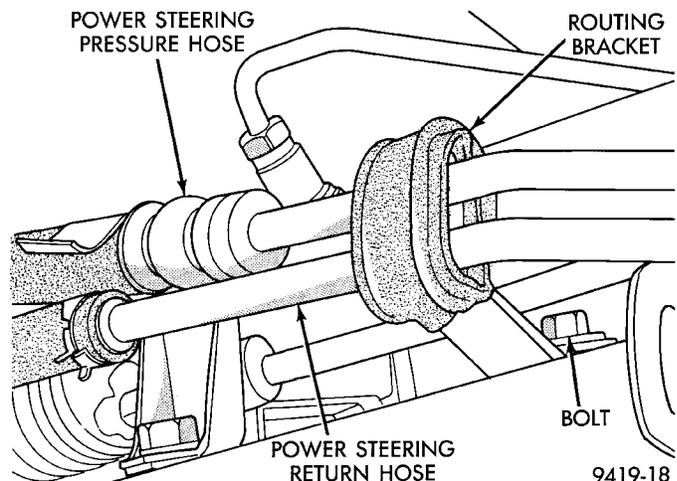
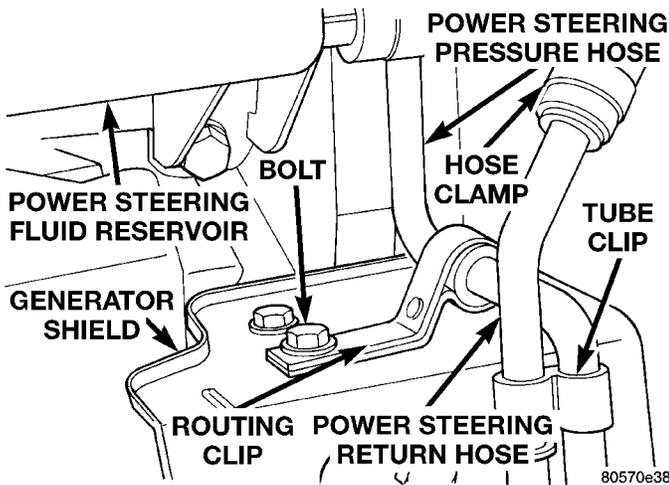
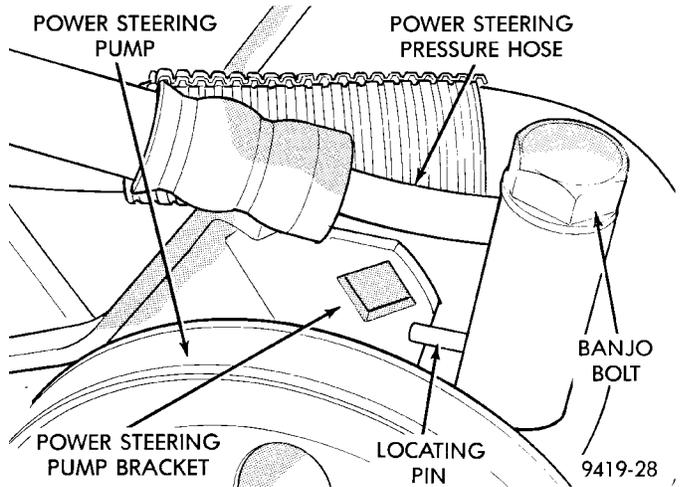

Fig. 8 Power Steering Hose Routing Bracket
Fig. 10 Power Steering Pressure Hose Routing Clip At Generator Shield
Fig. 12 Power Steering Hose Attachment To Power Steering Pump
- (1) Raise vehicle.
- (2) Remove bolt attaching power steering hose routing bracket to front suspension crossmember (Fig. 8).
(4) Remove power steering pressure hose from routing clip on generator shield (Fig. 10).
- (7) Loosen and remove Banjo bolt, and power steering pressure hose from pressure fitting on power steering pump (Fig. 12).
- (8) Power steering fluid pressure hose is removed from the vehicle from the top of the engine compartment.
- (9) Discard all used O-rings located at ends of power steering pressure hose and Banjo bolt.
- (7) Attach power steering pressure hose to outlet fitting on power steering pump (Fig. 12). **Do not tighten or torque pressure fitting Banjo bolt at this time.**
(11) Install the power steering pressure and return hose routing clip on hoses (Fig. 8). Install bolt attaching routing clip to front suspension crossmember. Torque routing clip to front suspension crossmember attaching bolt to 23 N·m (17 ft. lbs.)
(12) Torque power steering pressure hose to steering gear tube nut to 34 N·m (25 ft. lbs.).
(13) Install power steering pressure hose in routing clip on generator shield (Fig. 10).
(14) Lower Vehicle.
(15) Position locating pin on power steering pressure hose banjo fitting so it is against power steering pump mounting bracket (Fig. 12). While holding locating pin against power steering pump bracket, torque pump end Banjo bolt to 34 N·m (25 ft. lbs.).
(16) Securely tighten bolt attaching power steering pressure hose bracket to generator shield.
(17) Start the engine and let run for a few seconds. Then turn the engine off.
(18) Add fluid if necessary. Repeat the above procedure until the fluid level remains constant after running the engine.
(19) Raise front wheels of vehicle off the ground.
(20) Start the engine. Slowly turn the steering wheel right and left, lightly contacting the wheel stops. Then turn the engine off.
(21) Add power steering fluid if necessary.
(22) Lower the vehicle and turn the steering wheel slowly from lock to lock.
(23) Stop the engine. Check the fluid level and refill as required.
(24) If the fluid is extremely foamy, allow the vehicle to stand a few minutes and repeat the above procedure.
(25) After hose is installed, check for leaks at all hose connections.